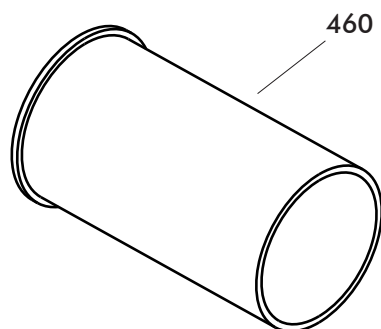

Fig. 2.h - Plug, flash hider (460)
The magazine (601) is held into the receiver assembly (201 - see figure 2.c) by the catch, magazine (241 - see figure 2.c).
(a) List of parts (Fig. 2.h)